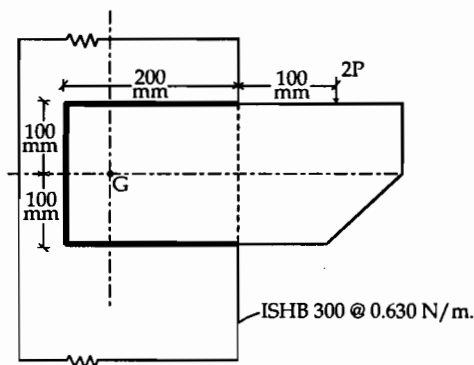

Figure 6. A
6. (A) Plates have been connected with flanges of 'T' section by applying 8mm fillet weld as shown in Figure 6.A. Compute the maximum load which may be placed at a distance of 100mm from the flanges. 15